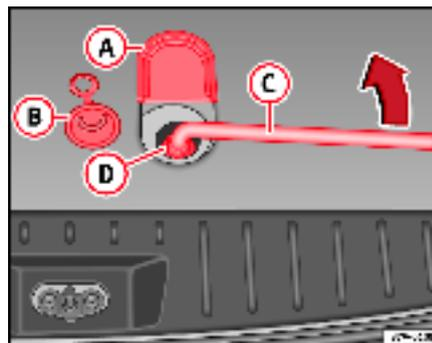

Fig. 151 Taking out the spare wheel
1. Lift the cover (A) ⇒ fig. 151 located on the floor of the luggage compartment, next to the tailgate lock.
2. Pull the ring of the rubber seal (B) upwards.
3. Remove the box spanner (C) from the vehicle tools.
4. Fit the box spanner on the bolt, to the maximum, and hold in this position. At the same time press the safety ring (D) downwards ⇒ .
5. Turn the box spanner (C) several times to the left, until the spare wheel can be fitted, hanging from a wire, vertically behind the vehicle.
4. Remove the box spanner ⇒ page 232, fig. 151 **C** and turn the bolt on the floor of the luggage compartment several times to the right, until the defective wheel is firmly secured against the inside of the luggage compartment floor ⇒ **!** in “Taking out the spare wheel” on page 232.
5. Close the opening with the rubber seal ⇒ page 232, fig. 151 **B** and lower the cover **A**.